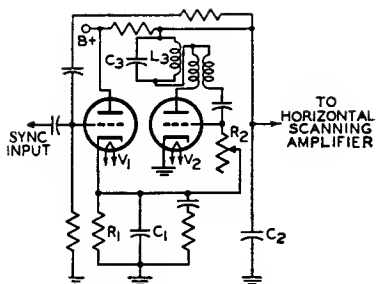
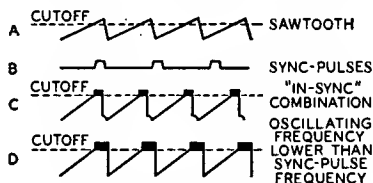
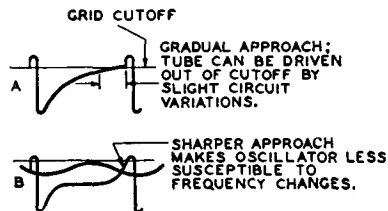

Fig. 70—Simplified synchroguide circuit.
Fig. 71—Sawtooth and sync pulses in synchroguide circuit.
Fig. 72—Waveforms showing effect of tuned circuit L_3C_3 in Fig. 70.
The triode V_2 in Fig. 70 is a conventional blocking oscillator which enables a sawtooth voltage to be developed across the capacitor C_2 . A portion of this sawtooth is fed back to the grid of the control tube, V_1 . The positive sync pulses are also applied to the grid of V_1 . The waveforms shown in Fig. 71 illustrate the sawtooth and sync pulses (A and B) and their proper "in-sync" combination (C). The sync pulse occurs partly during the portion of the sawtooth voltage in which the triode V_1 draws current. Any shift in sync pulse as it is superimposed on the sawtooth, therefore, will affect the amount of conduction of the control tube. A change in control-tube conduction ultimately affects the bias on the oscillator-tube grid by changing the voltage to which the capacitor C_1 in the cathode circuit may charge. An increase in the positive bias increases the frequency of oscillation.
For example, waveform D in Fig. 71 illustrates a condition in which the sawtooth voltage is advanced in phase with respect to the sync pulses. The widening of the pulse which occurs at
The "synchroguide" is a controlled type of oscillator used in television receivers to generate and control the synchronized sawtooth voltage necessary for adequate line- or horizontal-frequency scanning. A simplified synchroguide circuit is shown in Fig. 70. This circuit provides stable, noise-free control of a blocking oscillator which generates a horizontal-frequency signal. It permits comparison of the received sync pulses and the generated sawtooth voltages so
The blocking oscillator can be made more immune to changes in frequency and noise if V_2 is brought out of cutoff very sharply. This effect is obtained by sine-wave stabilization. The tuned circuit L_3C_3 in the plate circuit of Fig. 70 superimposes a shock-excited sine wave on the plate and grid waveforms, as shown in Fig. 72.